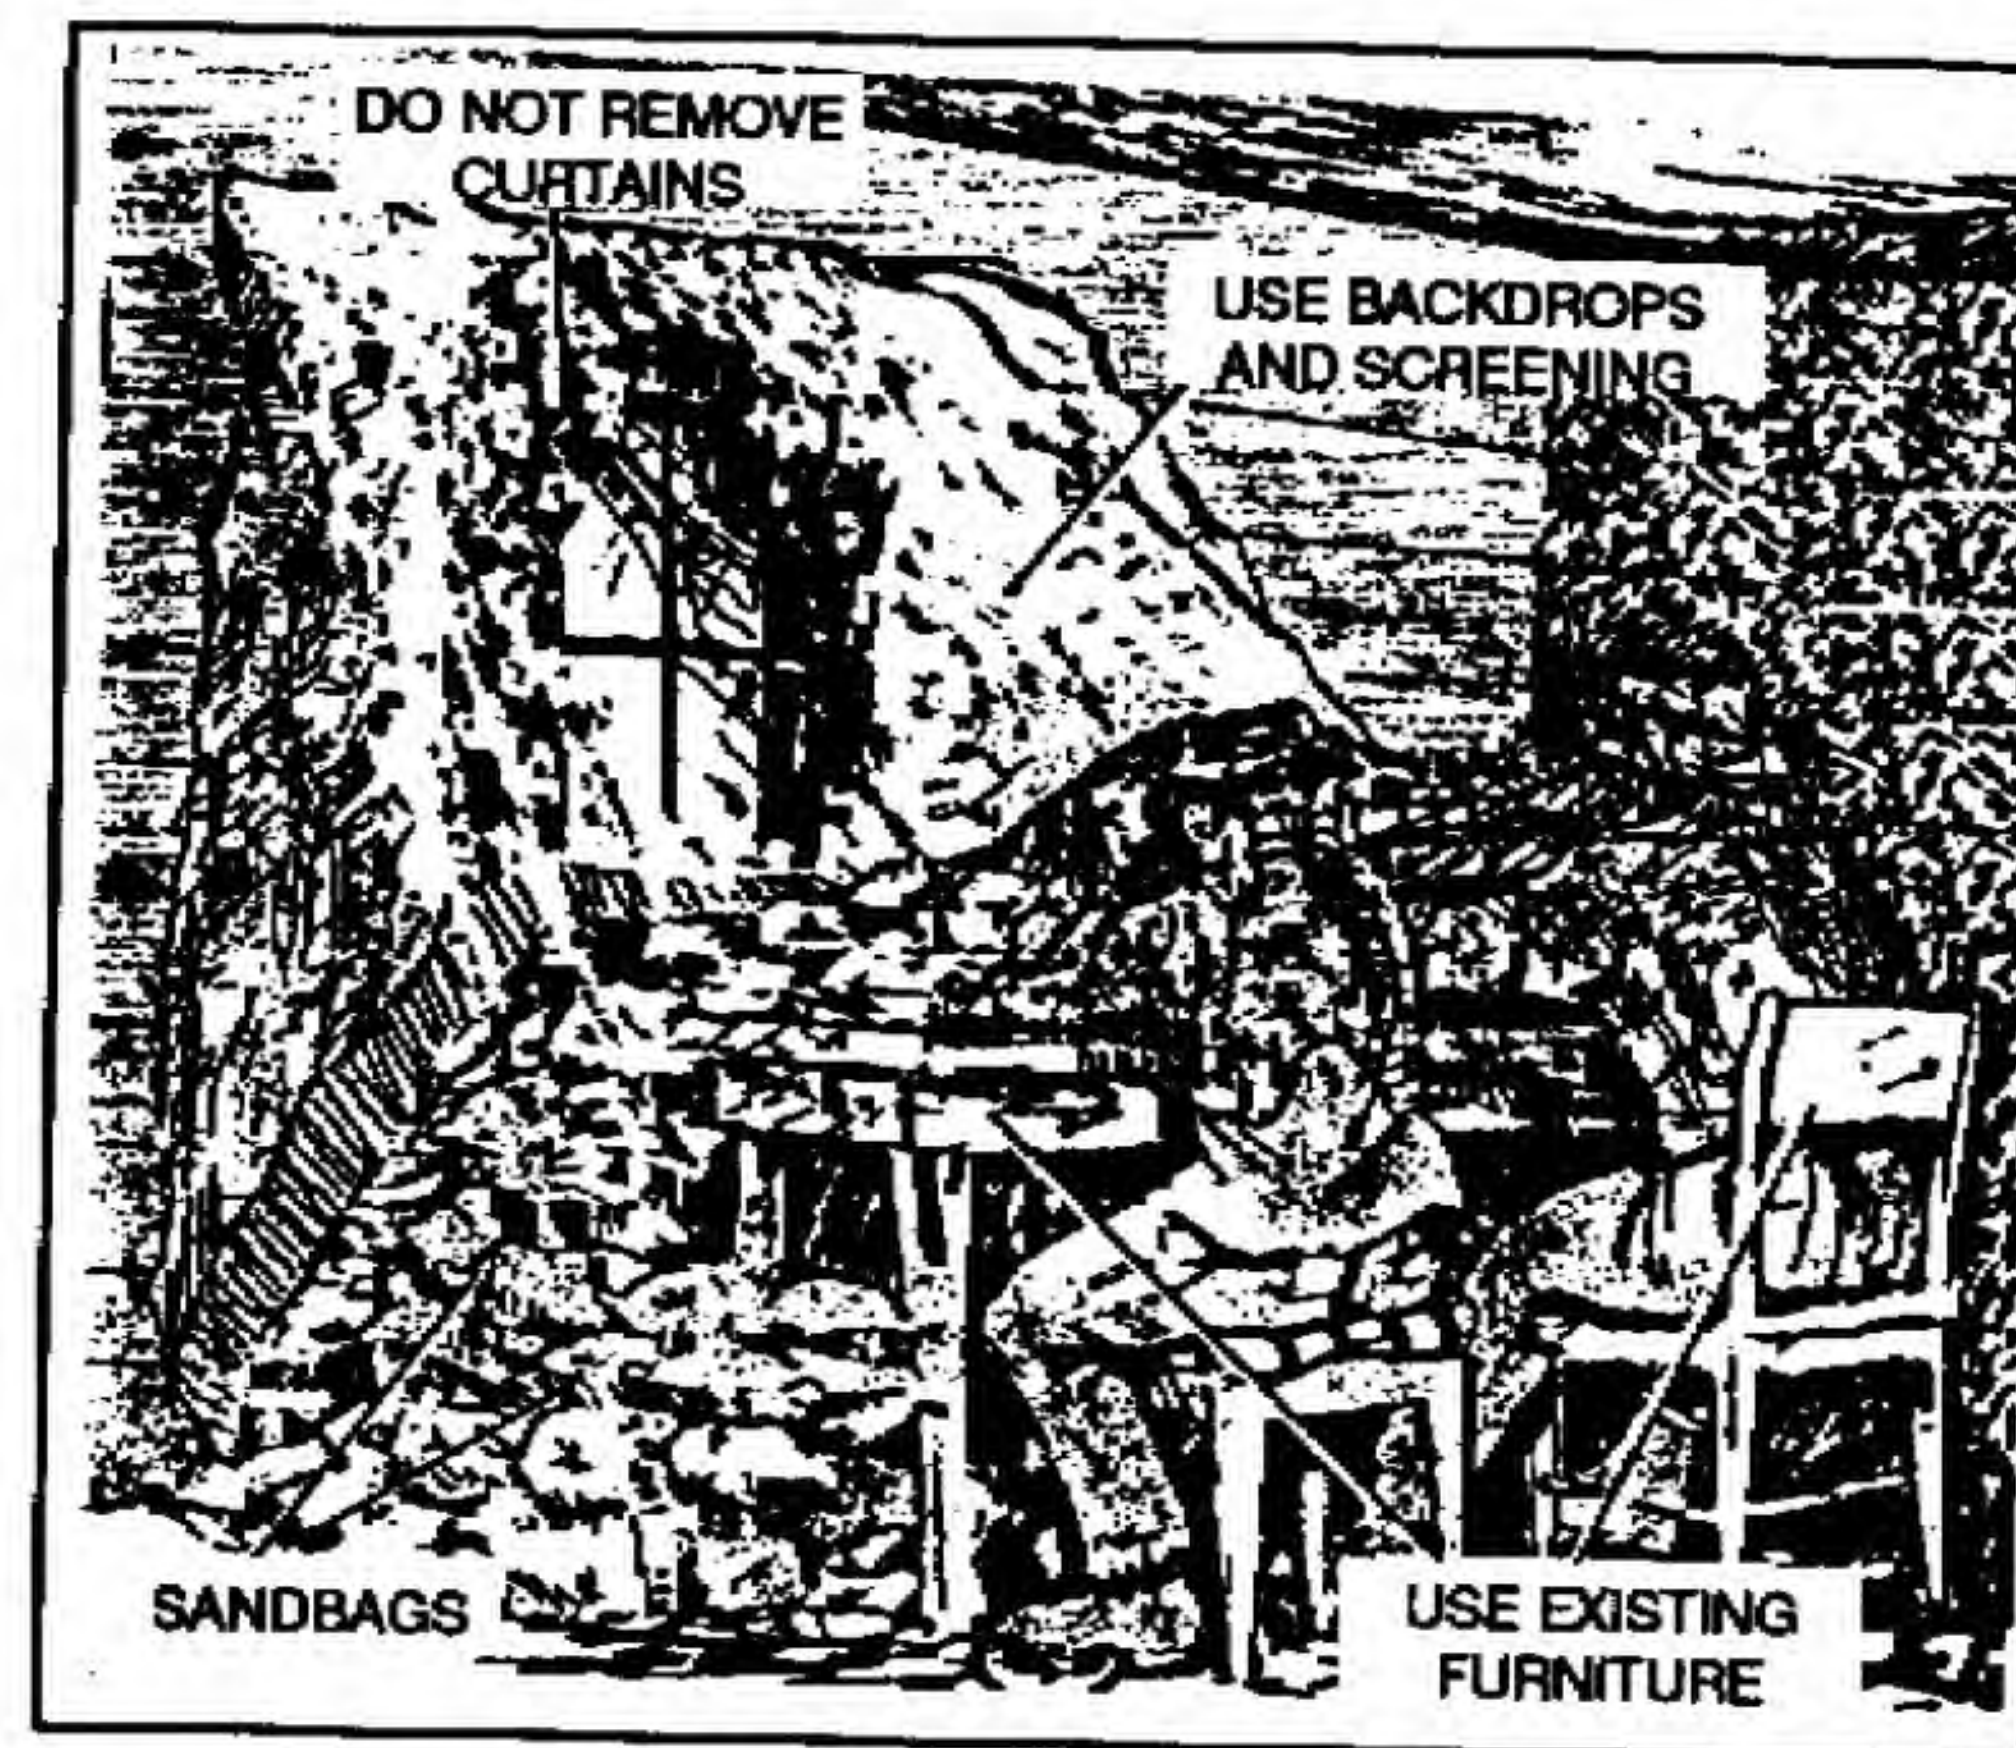

Figure 4-13. Room hide position.
(1) *Room hide position.* In a room hide position, the sniper team uses an existing room and fires through a window or loophole (Figure 4-13). Weapon support may be achieved through the use of existing furniture—that is, desks or tables. When selecting a position, teams must notice both front and back window positions. To avoid silhouetting, they may need to use a backdrop such as a dark-colored blanket, canvas, carpet, and a screen. Screens (common screening material) are important since they allow the sniper teams maximum observation and deny observation by the enemy. They must not remove curtains; however, they can open windows or remove panes of glass. Remember, teams can randomly remove panes in other windows so the position is not obvious.